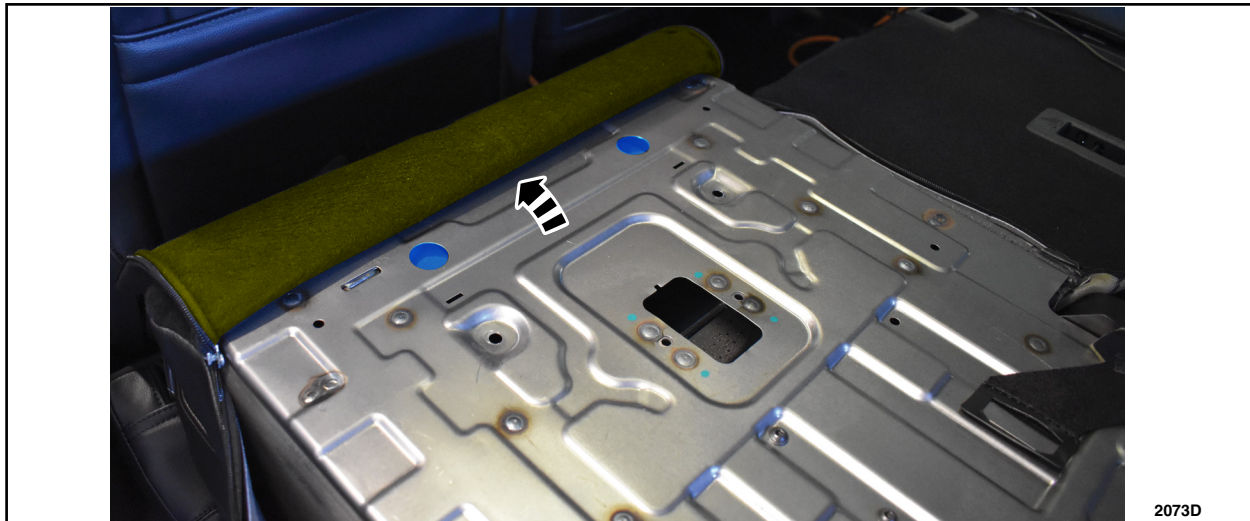

FIGURE 4
4. Position the backrest cover up to expose the two circular holes that are in-line with the headrest bracket welds. See Figure 4.